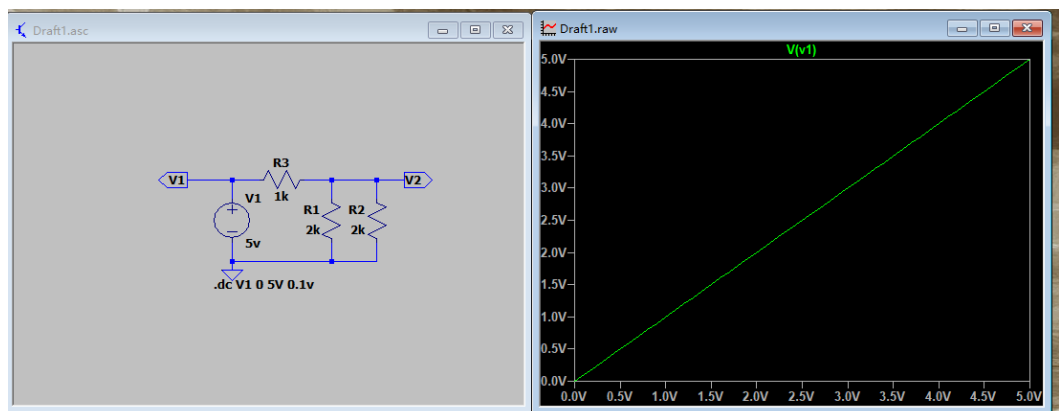

Figure 12: DC simulation example
- e) Then start simulation. Click  to start the simulation. Move the cursor to the label V1. When the cursor suddenly looks like a “voltage sensor” ()”, left click and you get screen like Figure 12.